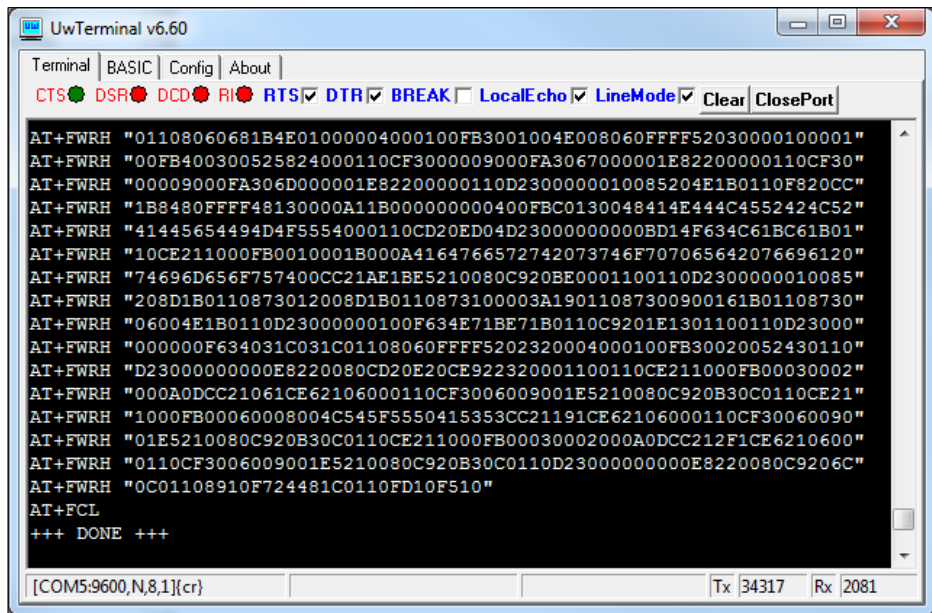

Figure 6: Compiled and loaded
- Locate and open the `uclp.uart.low.power.operation.sb` application located in the supplied *smart*BASIC `_sample_Apps` folder. When the application is successfully compiled and loaded, the console displays `+++ DONE +++` (Figure 6).